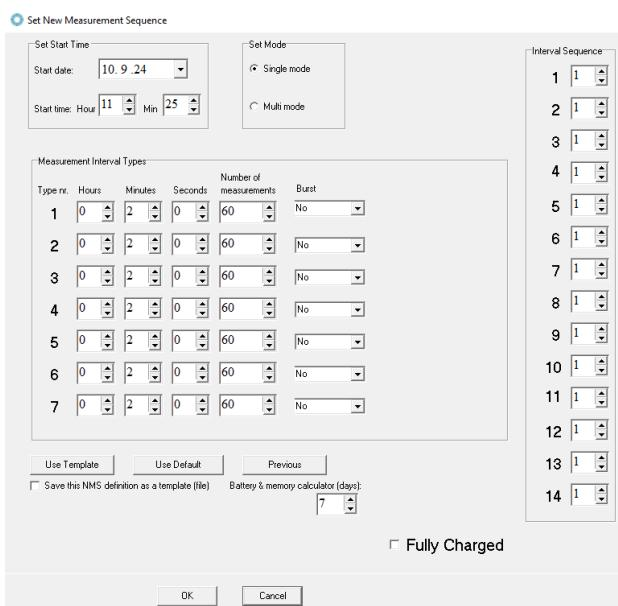

Figure 7.7: Setting new Measurement Sequence (with multiple intervals)
- Interval Sequence 1-14:** The interval sequence must be filled out. As shown in figure 7.7, the user selects to use intervals 1-7 for the recordings. Another example: Suppose two of the first sampling intervals are used. In that case, the sequence should be 1, 2, 1, 2, etc., meaning that the recordings shift between the first and the second intervals, recording the defined number of measurement for the first interval, and then shifting to the second interval taking the number of measurements defined. The shifting between the intervals repeats until memory is full or until a connection is made through a PC computer.